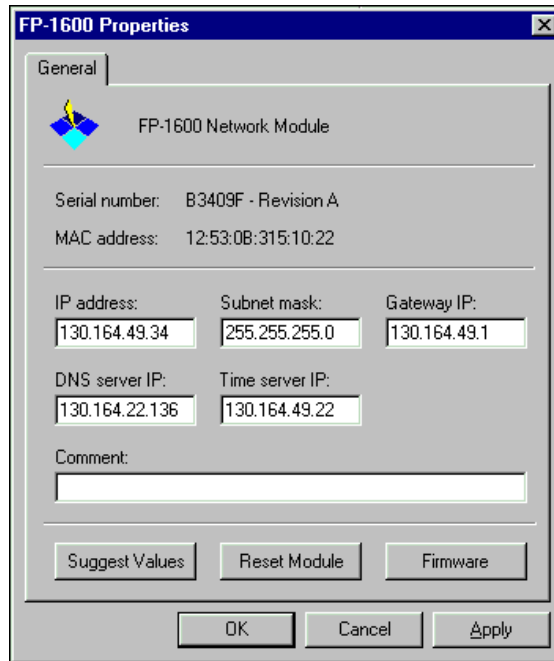

Figure 3-6. Device Properties Window
1. After you have selected the **Device Properties** button from the **Network Devices** window, the **FP-1600 Properties** window appears, as shown in Figure 3-6.